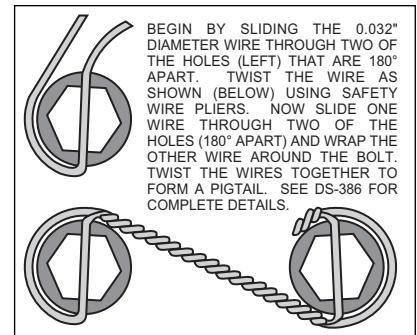

Figure 3. Safety Wire Diagram
- Install the o-ring (16) and the dust cap (15) into the hub (5). **NOTE:** O-ring (16) friction will not allow cap (15) to unscrew on its own.
- With the larger I.D. side of the rotor (8) facing away from the hat (9), bolt rotor (8) to hat (9) through the backside of the rotor using washers (10) and bolts (11). Torque bolts (11) to 85 **in-lb**. Safety wire bolts (11) using standard 0.032 inch diameter stainless steel safety wire as shown in Figure 3. Please refer to Wilwood's data sheet DS-386 (available at www.wilwood.org/ds386.pdf) for complete safety wire installation instructions.